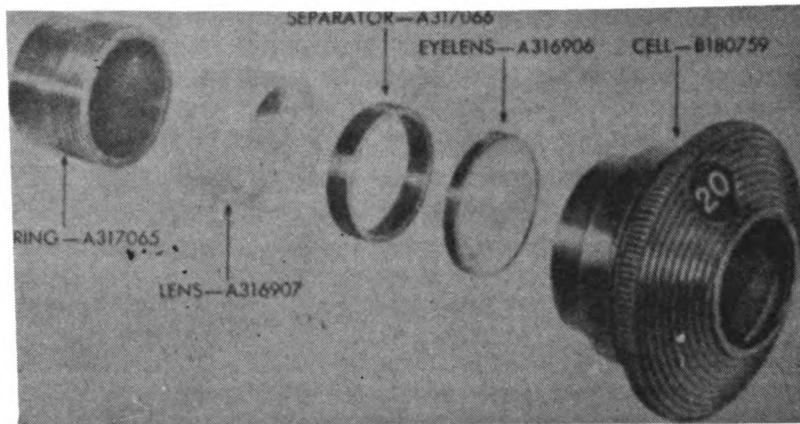

Figure 16—Observation Telescope M49—Eyepiece Assembly B180758 Disassembled
(1) Unscrew retaining ring A317065 (fig. 16).
(2) Hold eyelens cell slightly above a piece of soft cloth, or tissue, and tap lightly to remove field lens A317907 and separator A317066.
(3) Use same method to remove eyelens A316906, tapping more vigorously or pushing against eyelens if necessary. Care should be exercised that the bare fingers or table surface do not touch the lens. After removal, wrap the lens in a piece of lens tissue paper and store in a safe place.